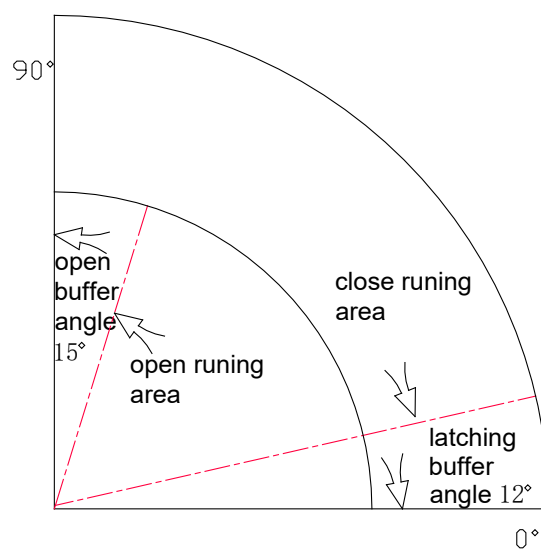
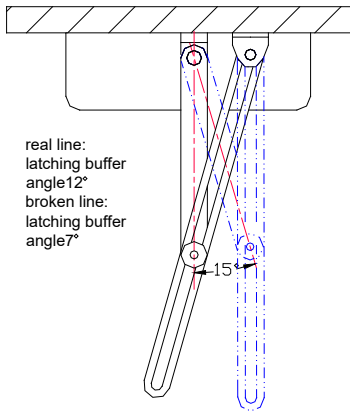

Figure 5
Figure 6
- When driving arm is vertical to the doorframe, the buffer latching angle is 12° (see Figure 5, Figure 6); while the driving arm is fixed at 75° angle to the doorframe, the buffer latching angle is 7° (see Figure 6). It is suggested to use the latter fixing way for normal people; to avoid the possibility to be nipped by the latching door for elder or children, it shall be adjusted to 12° buffer latching angle if the door is too wide and heavy, or the brake and buffer action is not enough.